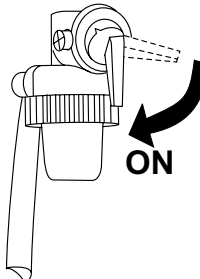

Figure 19. Engine Fuel Valve Lever (ON)
1. Place the engine fuel valve lever (Figure 19) in the **ON** position.